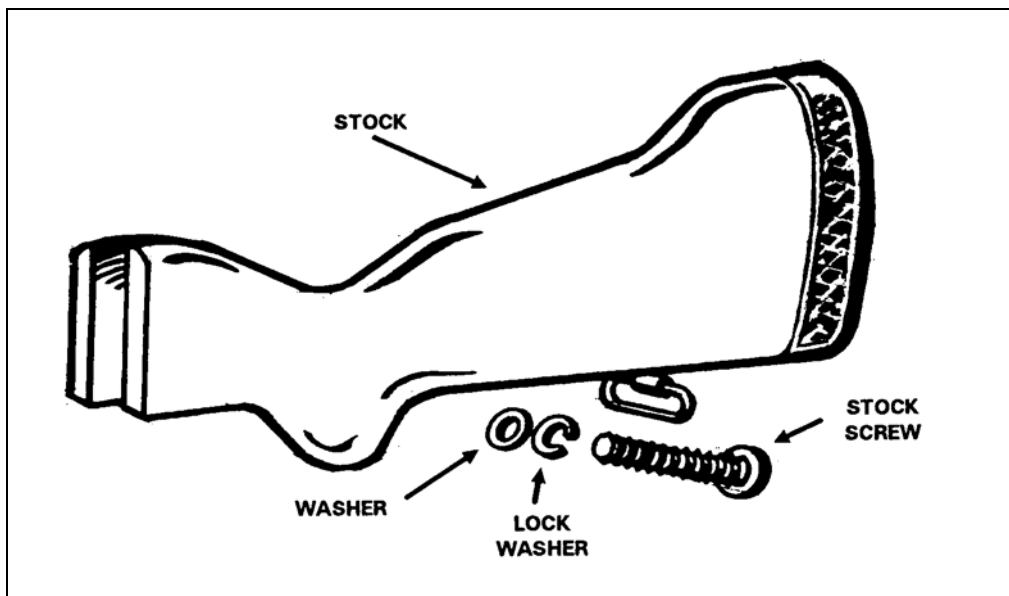

Figure A-11. Removing the stock.
d. Remove the stock screw and washers and pull the stock rearward from the receiver (Figure A-11).